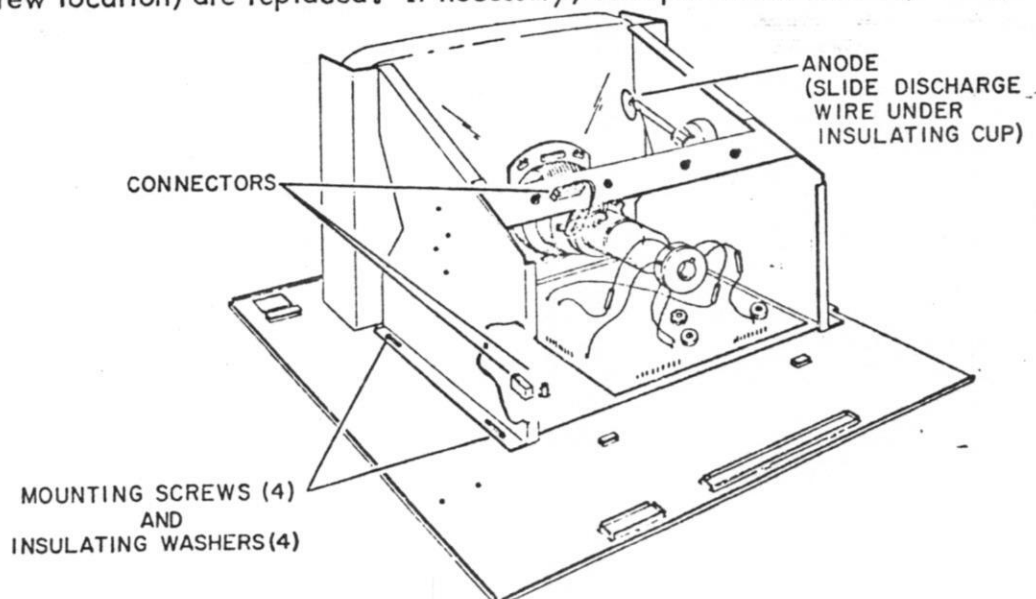

Figure 6-19. TV Module Mounting
- Disconnect all cables from TV module (see Figure 6-19).
- Remove four mounting screws (see Figure 6-19).